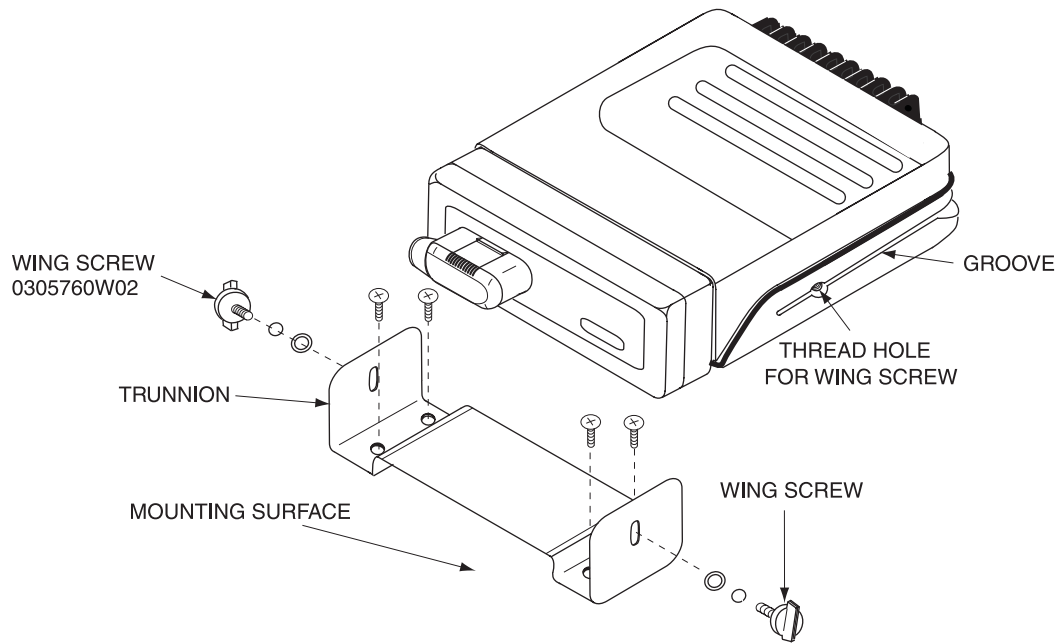

Figure 4. Securing the Trunnion Mounting Bracket
4. Secure the trunnion mounting bracket with the four screws provided (see Figure 4).